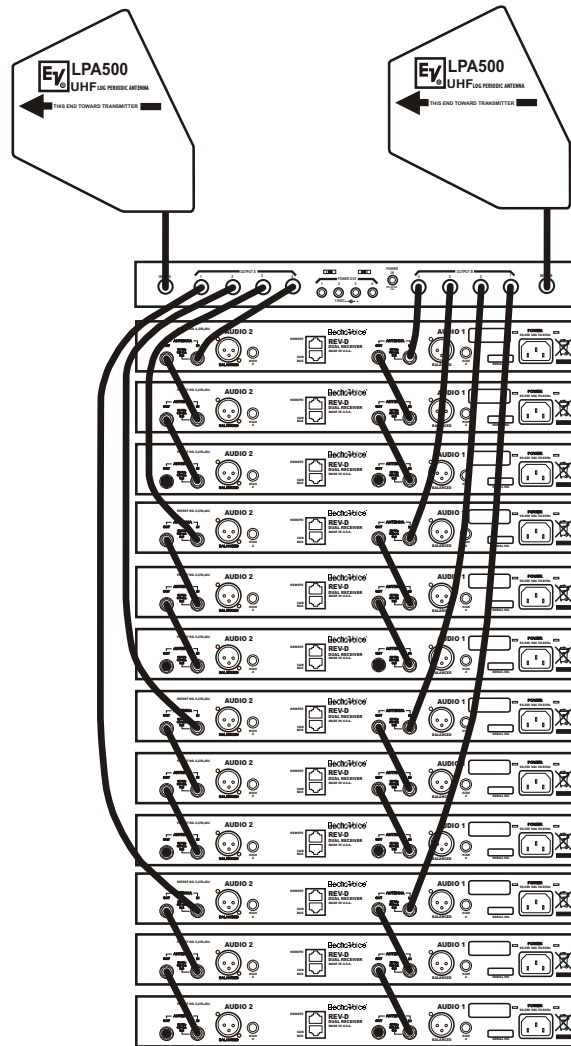

Figure 4
4. Up to 12 REV-DUAL units can be operated with just two antennas with the optional APD4+ antenna distribution unit (see Figure 4).